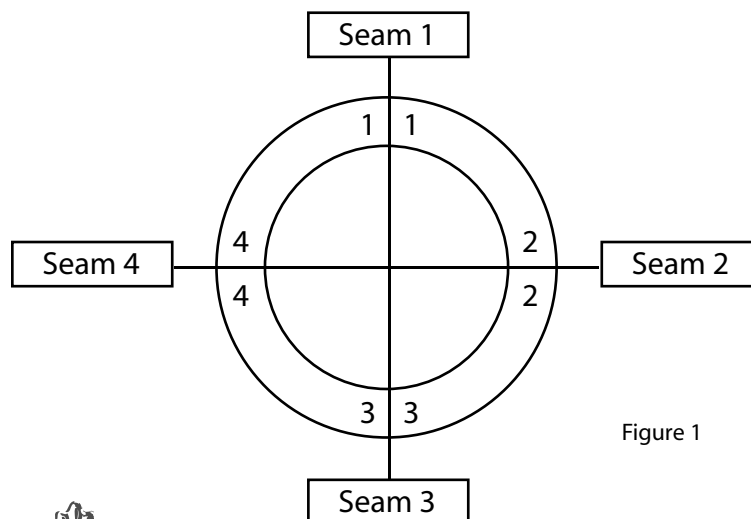

Figure 1
- Assemble pieces on the floor by matching the number system on the back of the parts (See Figure 1),